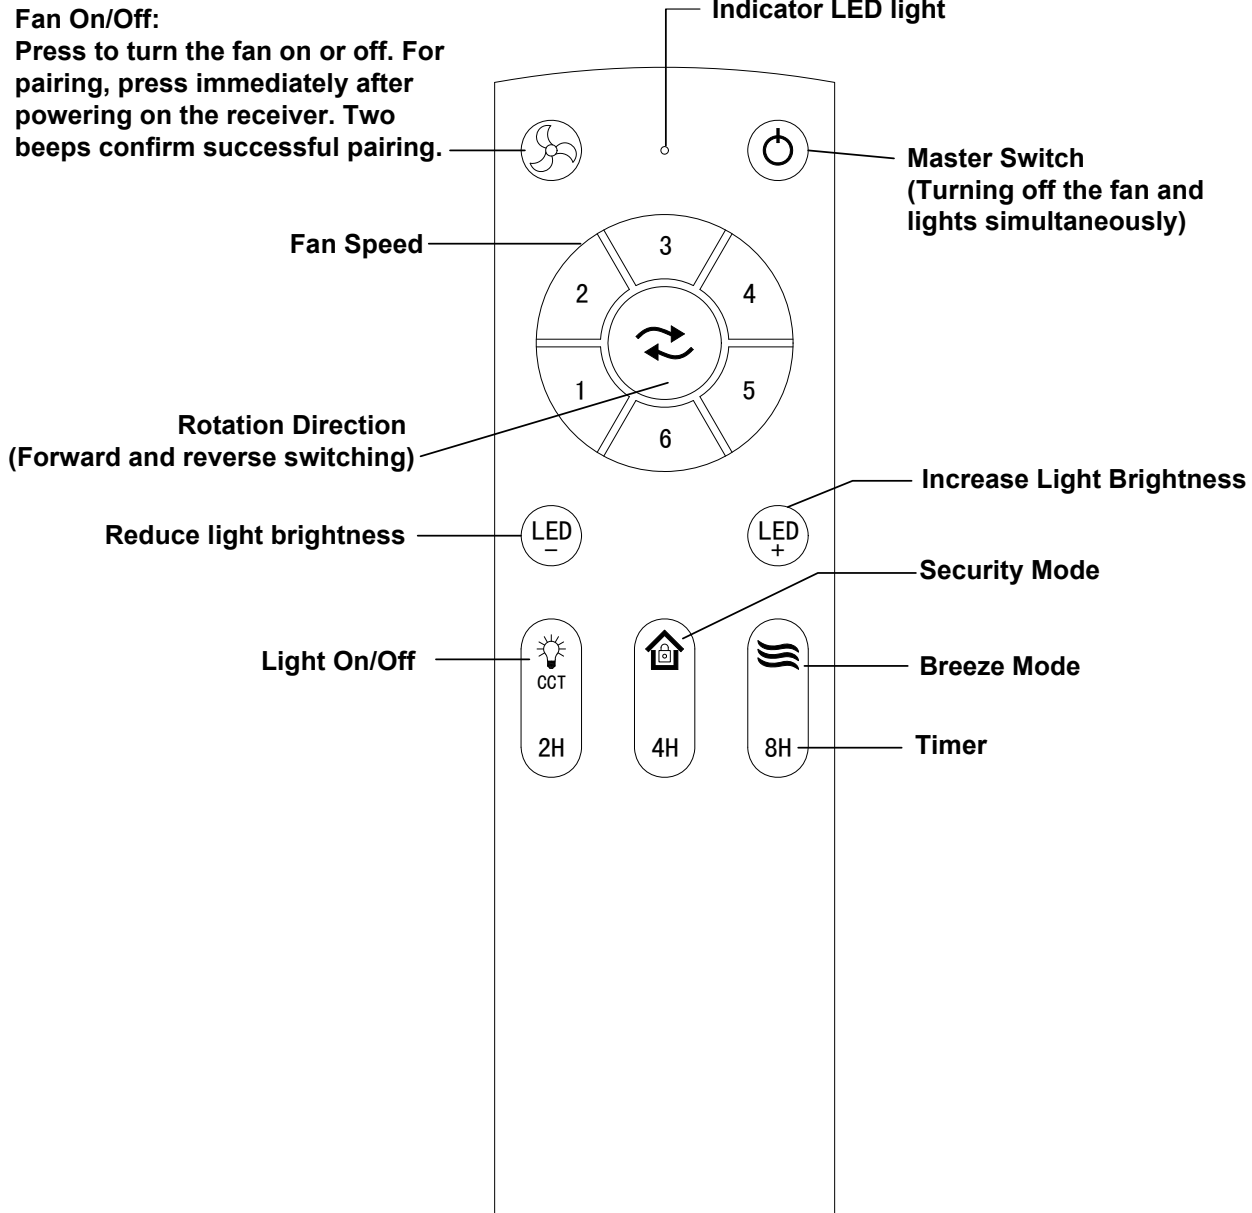

Figure 4
- ☐ Attach the safety cable to the ceiling. Use a wood screw to securely fasten the safety cable directly to the wood structure of the ceiling (Figure 4)
□ Remote functions: (Figure 4)